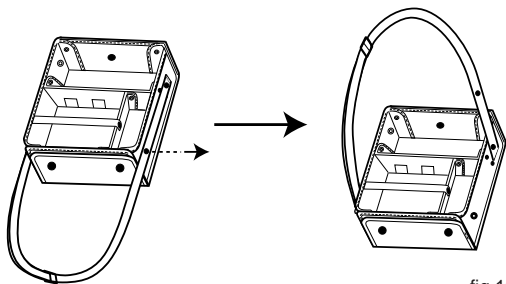

fig.12
2. Safe and stable hands-free measurement is possible by wearing shoulder strap around your neck with releasing a side snap as shown in fig.12.